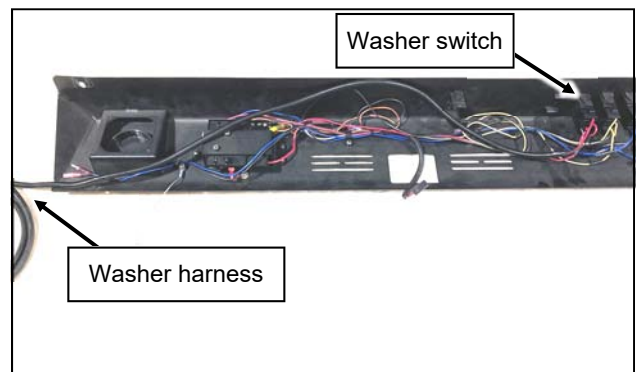

Fig. 3.2
- 3.2 Install the windshield washer harness onto the switch. Route all wires along the other wires from the switches toward the fuse block. See figure 3.2.